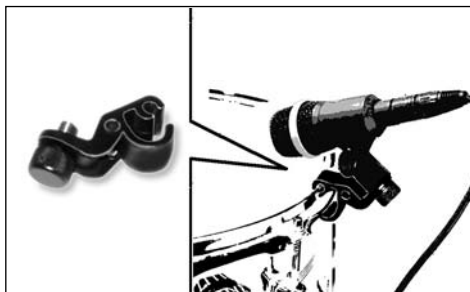

Fig. 4: Mounting the microphone on a tom-tom.
Refer to fig. 4.
- Refer to fig. 4 on page 19.